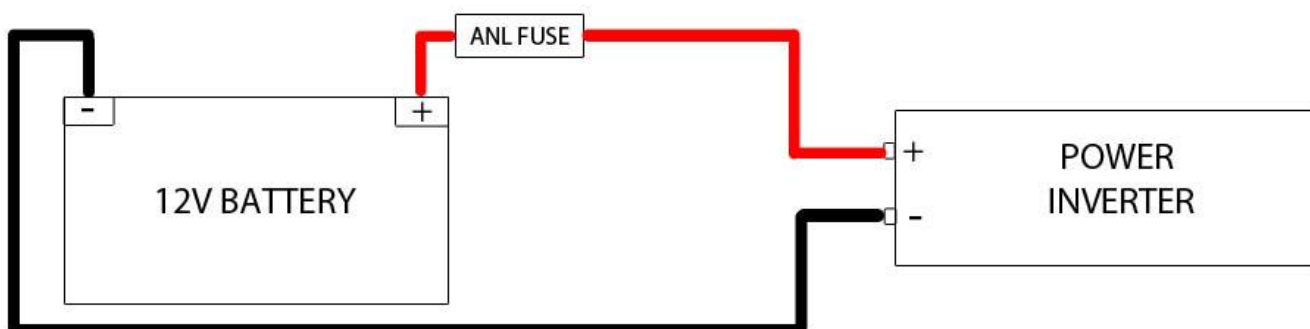

Figure 1
1. Using the included cables, directly connect the inverters (-) and (+) terminals to your automotive batteries respective (-) and (+) terminals, (See Figure 1 below). The cables should be bolted to the battery clamps for a solid connection (do not use jumper cables for installation). We recommend using an ANL inline fuse or circuit breaker (not included). The ANL fuse or breaker should be as close to the battery as possible, installed on the positive (+) cable. Please refer to the specifications table on page 1 for recommended wire sizes and fuse/breaker sizing. NOTE: There will be a spark between the cable from the negative terminal of the inverter when it is first connected to the negative terminal of the battery.